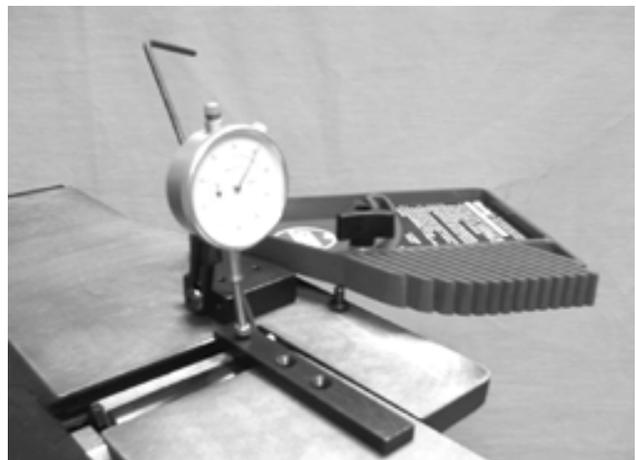

Figure 8
6. Set the Block (with Gauge attached as shown in Figure 8) on the infeed table of your Jointer so the plunger protrudes downward and the Tip touches the Miter Bar at a point directly over the cutterhead/knife.